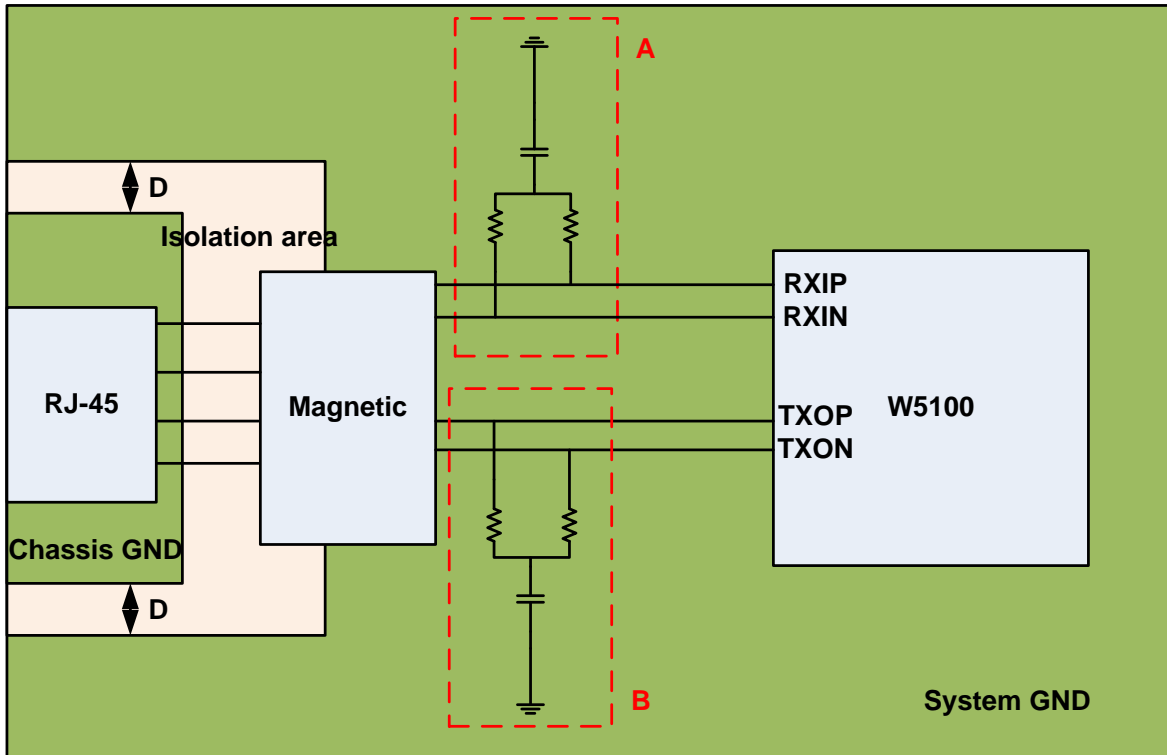

Figure 1
For ESD protection, we suggest to keep a distance(D) at least 80 mil for good isolation, which avoid ESD energy jumping by traces nearby IC. (See Figure 1)